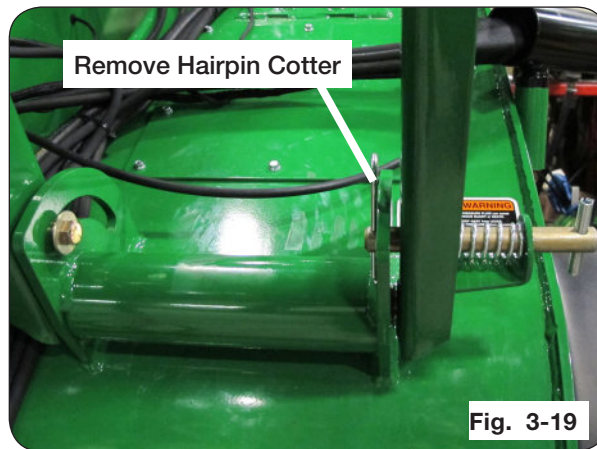

Fig. 3-19
2. Remove hairpin cotter from latch pin (Figure 3-19) and pull latch pin to disengage (Figure 3-20). Raise auger rest stand up to field position and release latch pin. Make sure the pin is engaged in the field position hole and re-install hairpin removed earlier in this step.